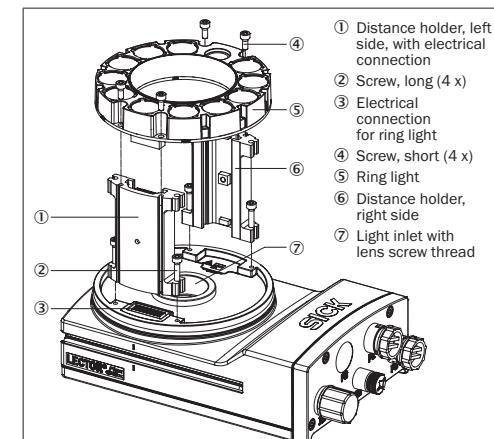

Fig. 3: Mounting the integrable illumination unit on the camera housing
- Remove the protective cap from the round light inlet (Fig. 3 ⑦).
- Do not touch the open contacts of the electrical connection (Fig. 3, item ③) for the illumination unit on the camera housing.